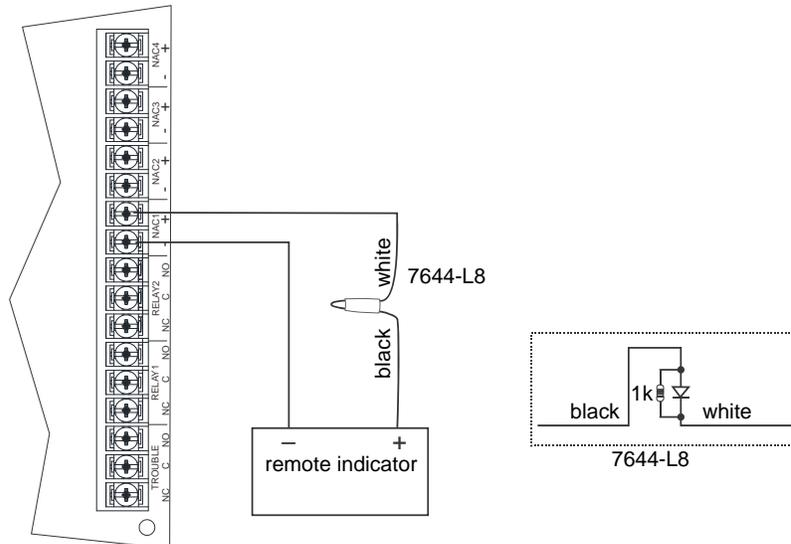

Figure 4.59 Polarity Reversal Connection Using the 7644-L8
- Wire the 7644-L8 to the control panel as shown in Figure 4.59. Do not install an EOL resistor on the terminals of the circuit used.